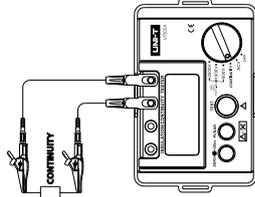

Figure 2
- (1) Set the rotary knob to ACV.
- (2) Insert the red test lead into "V" jack and the black test lead into "G" jack.
**9. Low Resistance Measurement (See Figure 2)**